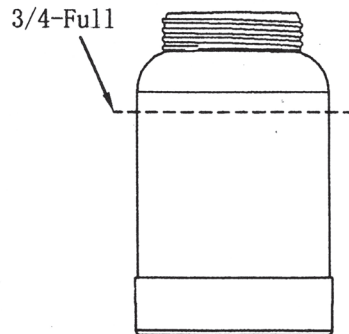

Figure 5—Filling the Cup
Step3. Fill the cup up to the 3/4-full mark shown in figure5.